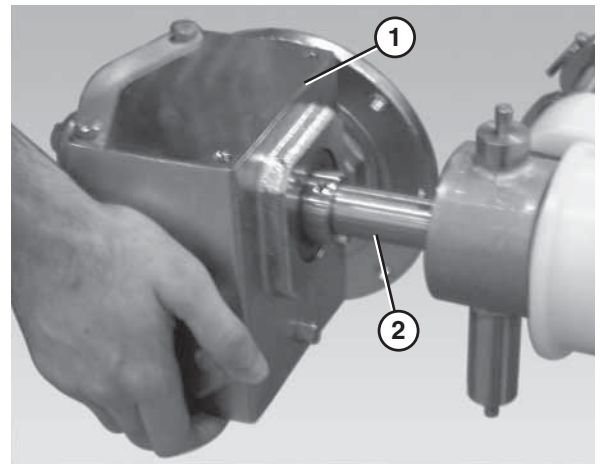

Figure 32
6. Slide the gearmotor assembly (Figure 32, item 1) off the drive spindle (Figure 32, item 2).